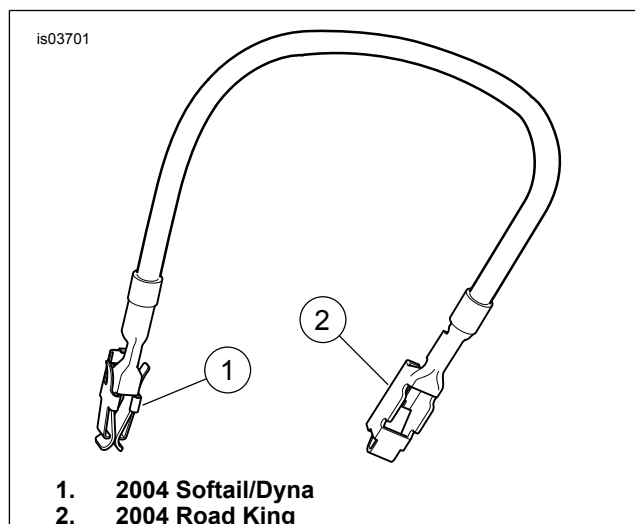

Figure 5. Fuse Block Adapter
2. See Figure 5. Select the fuse block adapter from the kit and cut off the end that does **not** fit the **P&A IGN (OPEN)** socket terminal on the back of the fuse block.